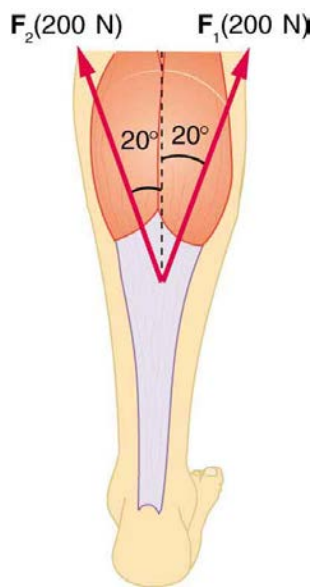

Figure 9.38 The Achilles tendon of the posterior leg serves to attach plantaris, gastrocnemius, and soleus muscles to calcaneus bone.
27. Two muscles in the back of the leg pull on the Achilles tendon as shown in **Figure 9.38**. What total force do they exert?